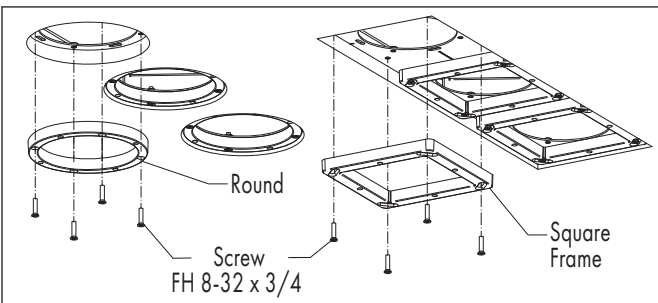

FIG 4.3 Install Frames
Step 4 Install Frames to housing. Note: Round or Square Frames can be installed before or after ceiling board installation-FIG 4.3 & 4.4.
For all Trim types - Tighten trim against ceiling material using four Phillips screws in middle of trim-**FIG 4.3**. Once plaster or compound has been applied, no further adjustment to the trim is possible.